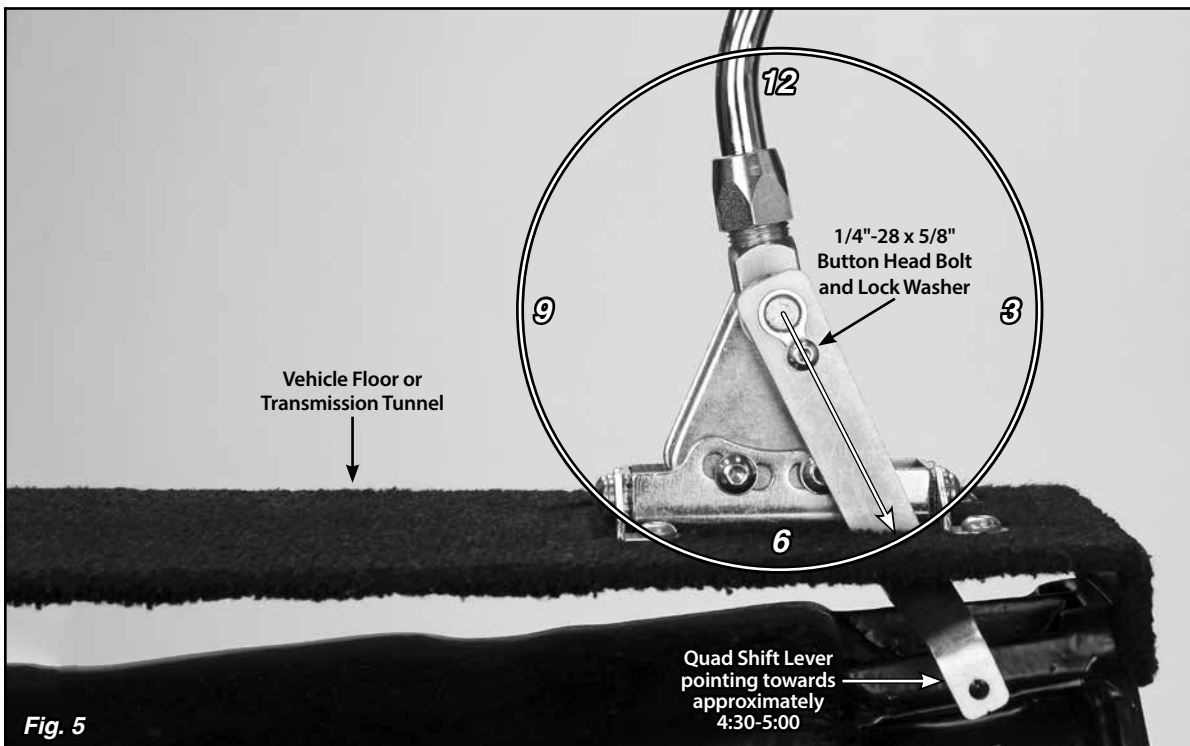

Fig. 5
**Step 9:** Make sure the shifter lever is in the Park position. Temporarily place the quad shift lever in position on the quad lever bushing as shown in **Fig. 5**. Check for interference with the driver side rear floor mount tab or the vehicle floor. With the shifter lever in Park, you want the quad shift lever to be as close to the 4:30 - 5:00 position as the floor mount tab will allow, without the quad shift lever touching the floor mount tab or floor.